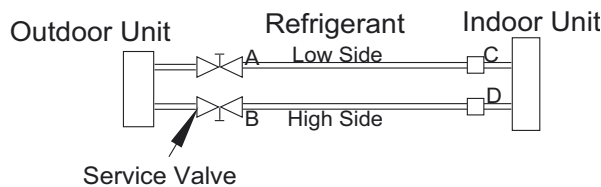

Fig. 7 – Service Valve
- 1 Completely tighten the flare nuts (A, B, C, D, E). Fully open all circuits service valves. Connect the manifold gage charge hose to the charge port of the low side Master service valve to evacuate all circuits at the same time (see Fig. 7).